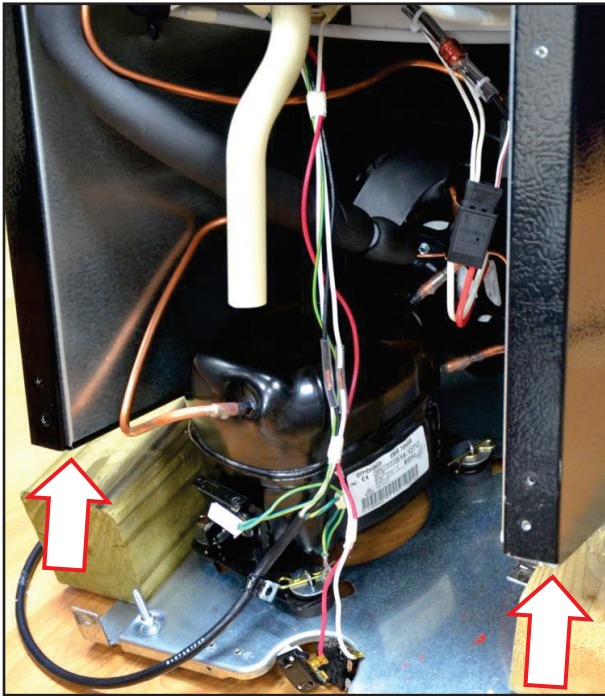

FIGURE 34
4. Tip the cabinet forward and install 4x4" blocks or equivalent to support cabinet. See *Figure 34*.